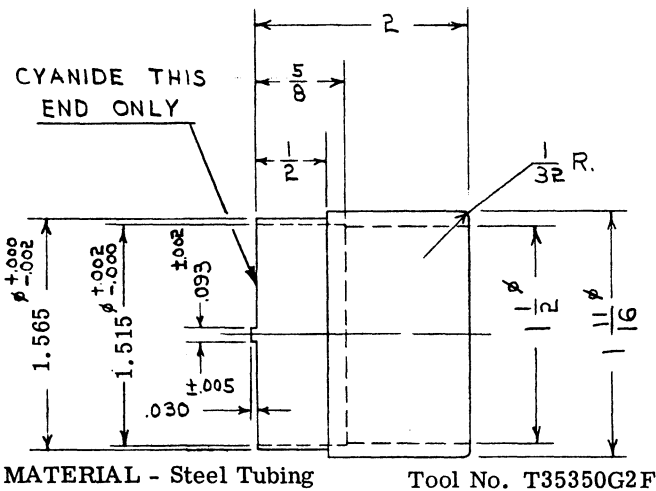

Figure 1. TUBULAR WRENCH
5. Special Tools - See Figures 1 thru 4.
- a. Tubular wrench (Figure 1) to remove front lens element.